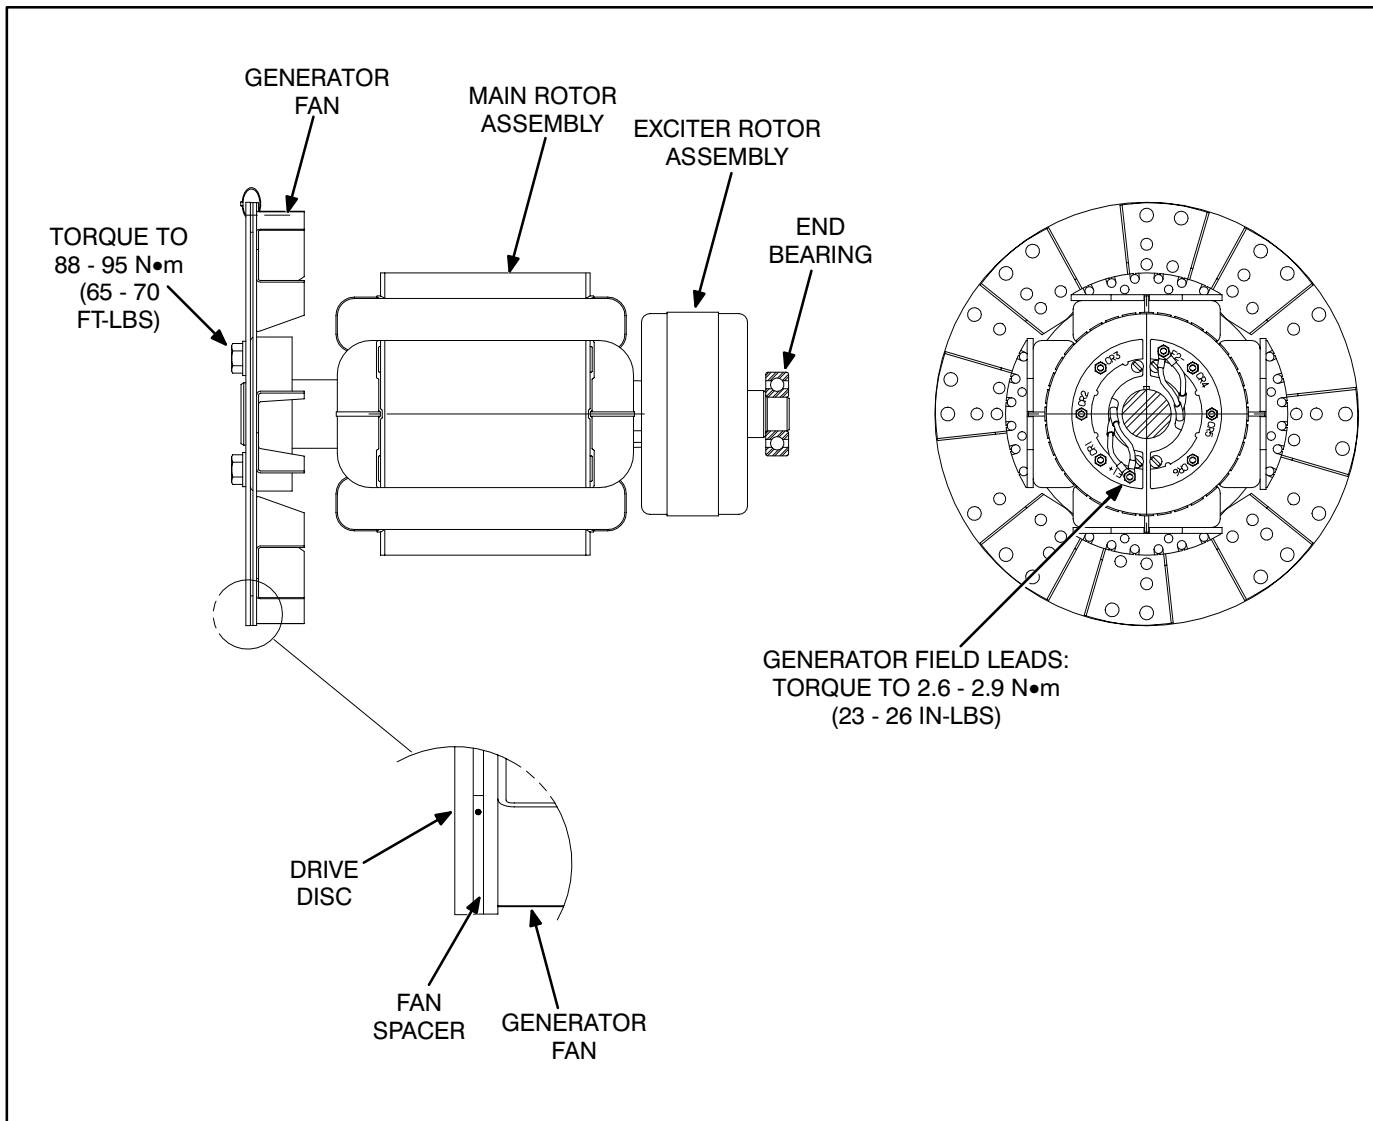

FIGURE 4-8. ROTOR ASSEMBLY AND TORQUE VALUES
1. Connect the generator field leads to F1+ and F2- terminals on the exciter assembly. Torque them to the values shown in Figure 4-8.